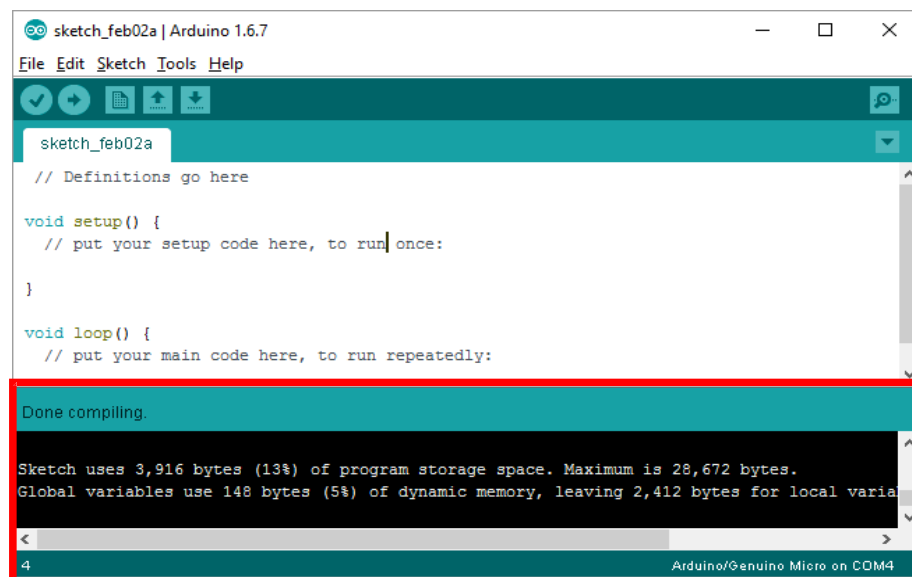

Figure 7. Arduino sketch after compiling.
- 4 Compile code and check for messages. Even though this Sketch is not doing anything, it has all the necessary ingredients to be compiled and uploaded. Select the **Verify** icon to compile. You should see something like what is shown in Figure 7.